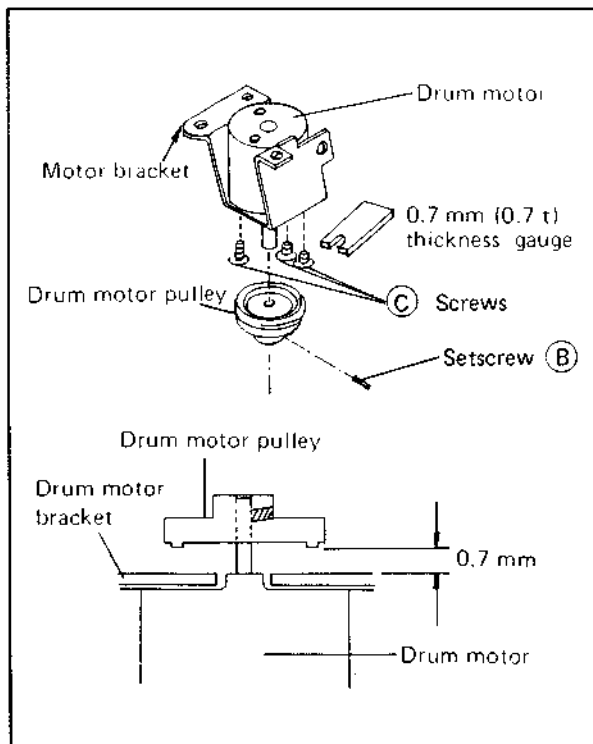

Fig. 4-40
2. Loosen setscrew (B) (Fig. 4-40) with a metric hex key and remove the pulley.
3. Take out 3 screws (C) and remove the motor bracket.
4. Mount the motor bracket to the new motor with screws (C).
5. To install the pulley, use the 0.7 mm thickness gauge as shown in Fig. 4-40. Press the motor shaft inward (to compensate for mechanical play) and mount the pulley with 0.7 mm spacing between the pulley and the motor bracket.